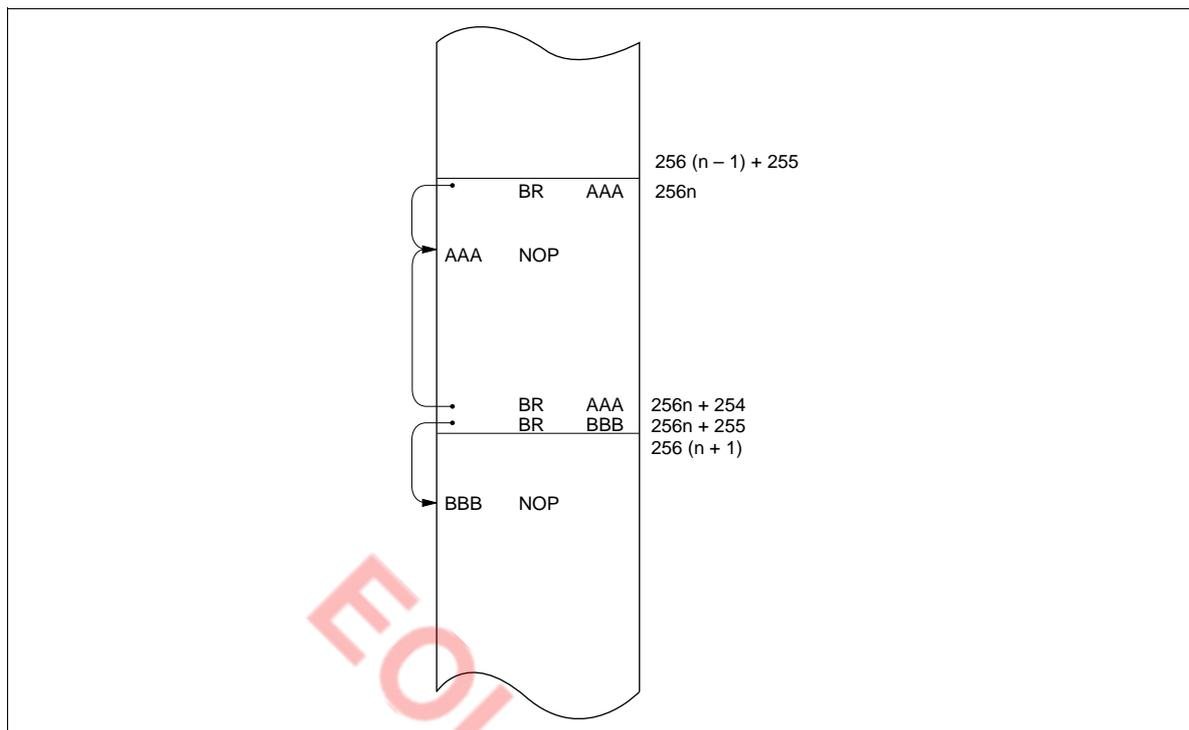

Figure 76 Branching when the Branch Destination is on a Page Boundary
**Current Page Addressing Mode:** The MCU has 64 pages of ROM with 256 words per page. A program can branch to any address in the current page by executing the BR instruction. This instruction replaces the eight low-order bits of the program counter ( $PC_7$ – $PC_0$ ) with eight-bit immediate data. If the BR instruction is on a page boundary (address  $256n + 255$ ), executing that instruction transfers the PC contents to the next physical page, as shown in figure 76. This means that the execution of the BR instruction on a page boundary will make the program branch to the next page.